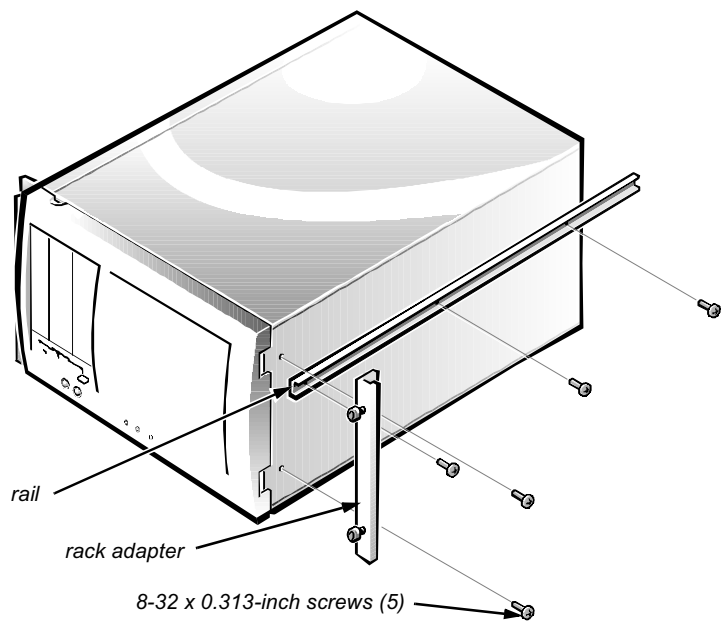

Figure 9. Installing the Rack Adapter and Rail
6. Install the rail on the computer (see Figure 9).
7. Install the rack adapter on the computer (see Figure 9).